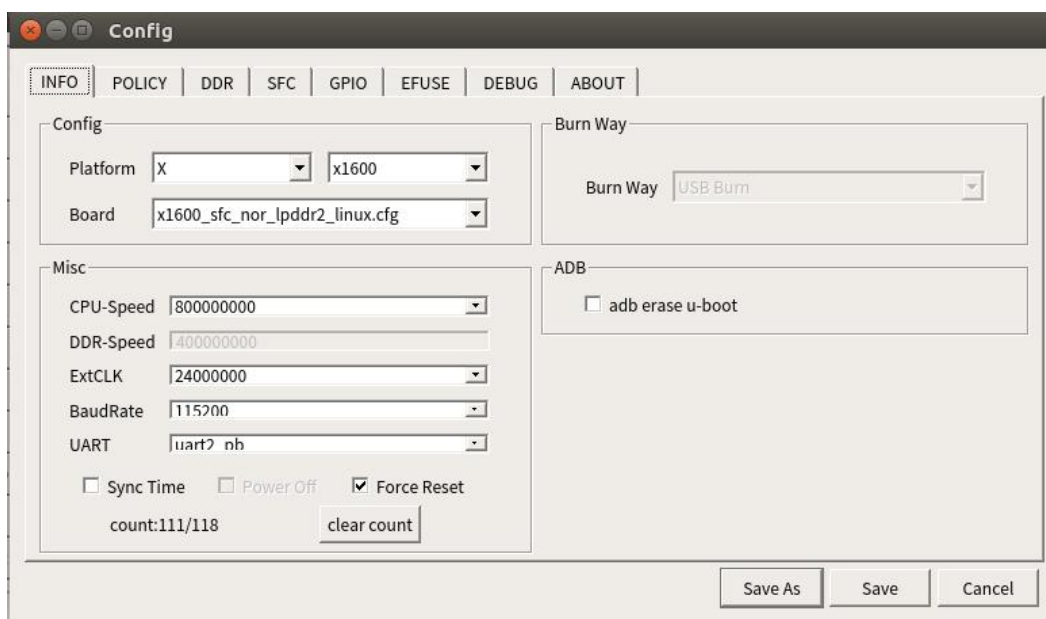

Figure 4-5
- 1、For the configuration of basic information, click INFO to enter the basic configuration information, select x1600 for the platform and `x1600_sfc_nor_lpddr2_linux.cfg` for the board level, see Figure 4-5 for details.